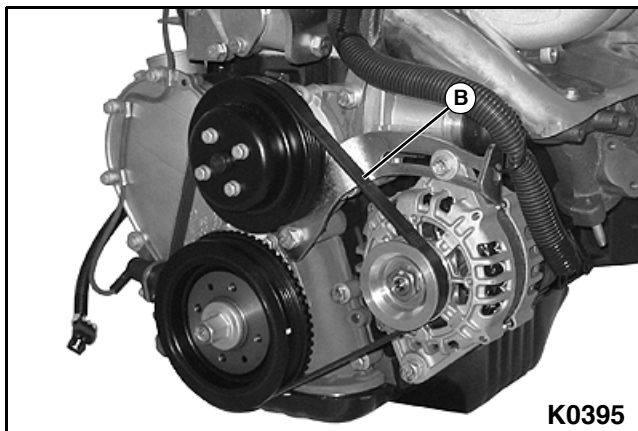

Figure 5-26
5. The drive belt tension should be checked at the midpoint (B) between the pulleys. **See Figure 5-26.**